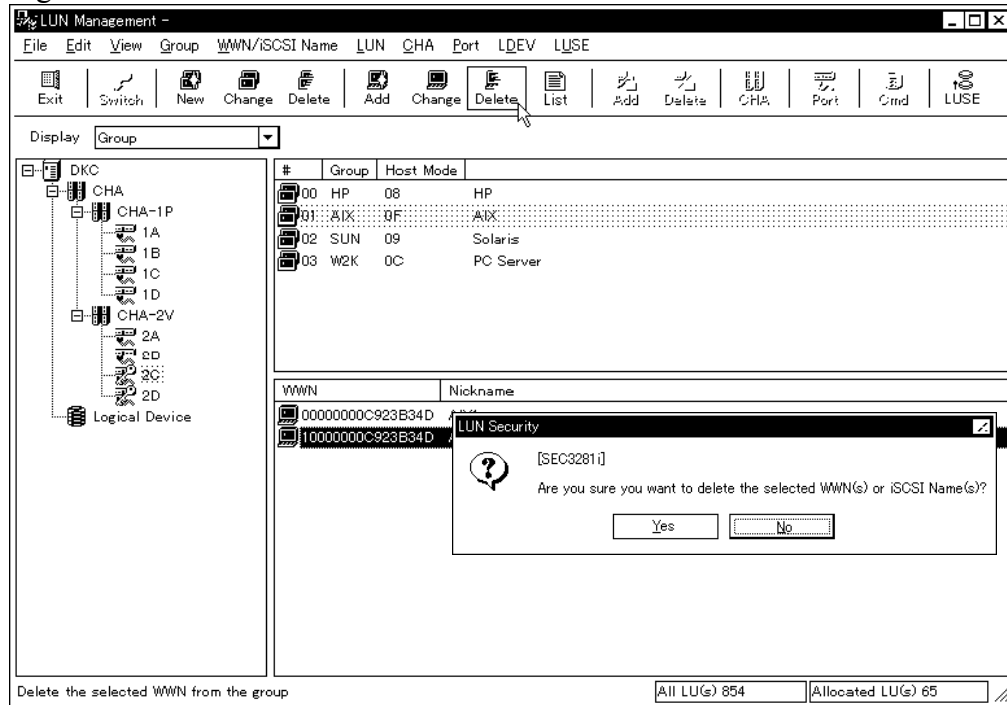

Figure 4.3.1 Main Window
- ① Select (CL) a WWN you want to delete from the lower right list.
- ② Select (DR) [Delete] from the [WWN/iSCSI Name] menu in the Main window (Figure 4.3.1).
- ③ Since a message asking for a confirmation is displayed, select (CL) the [OK] button.
- ④ The WWN that has been selected from the lower right list is deleted.